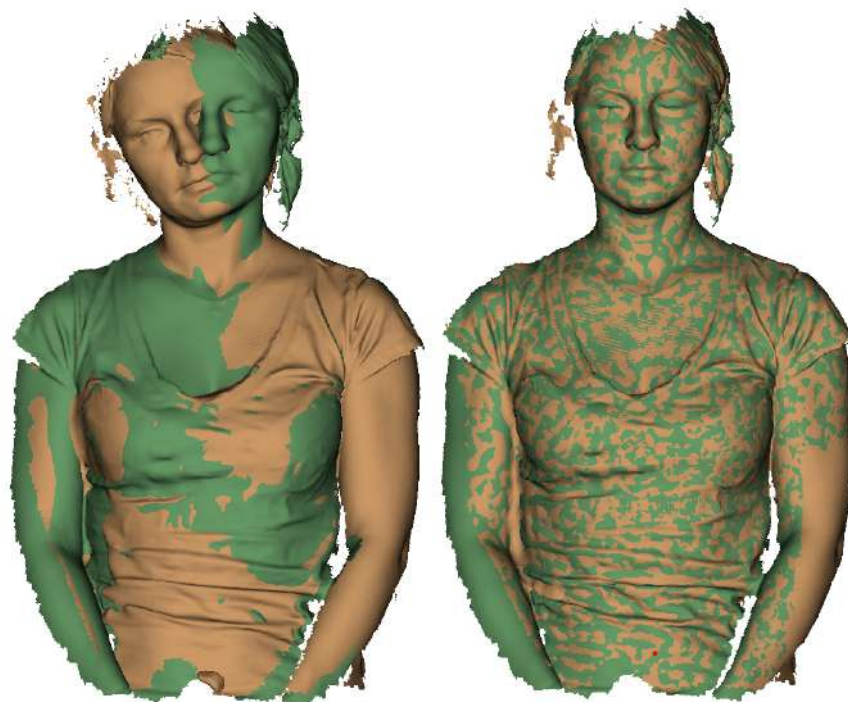

Figure 85: Two models after rigid (left) and nonrigid alignment (right).
Whereas rigid alignment can only perform such transformations as translation and rotation, the nonrigid algorithm can deform 3D data. This algorithm is intended to process so-called nonrigid objects: objects whose shapes have changed during the scan (e.g., models of animals or humans—see Figure 85, left). Keep in mind that the surface Artec Studio produces as a result of the deformation may differ from the surface of the actual object.
5. Click *Align....* The algorithm will align models by deforming one of the model (see Figure 85, right). If you are dissatisfied with the alignment results, click  and specify additional point pairs, or reposition the current pairs.